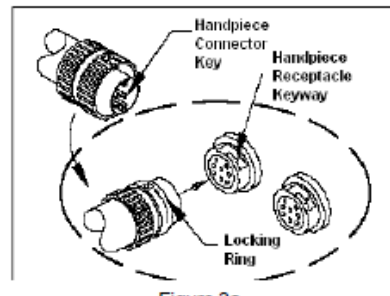

Figure 3a
6. Connect blue handpiece connector plug(s) to the blue power receptacle(s) CH 1, and/or CH 2 in the following manner. See Fig. 3a.